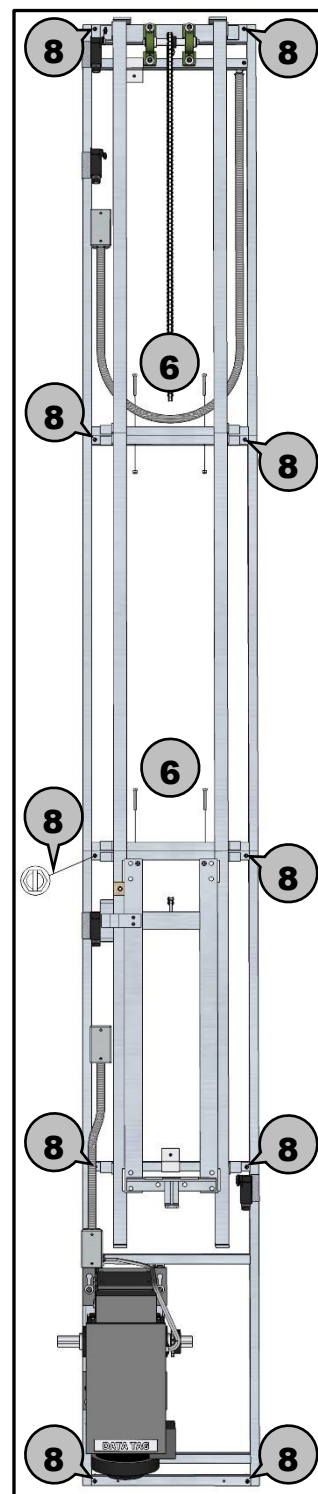

Figure 3
- 6** Use two (2) 1/4" x 2 1/4" bolts & nuts to fasten sections together. (**see Figure 3**)
- 8** Use provided 3" lag screws to fasten track & rail assembly to wall. (**see Figure 3**)